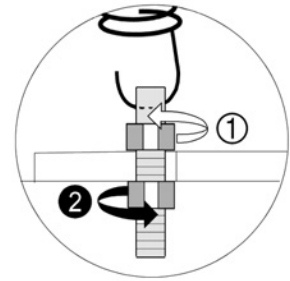

Fig. 45
- perform operations 1 and 2 shown in Fig. 45.